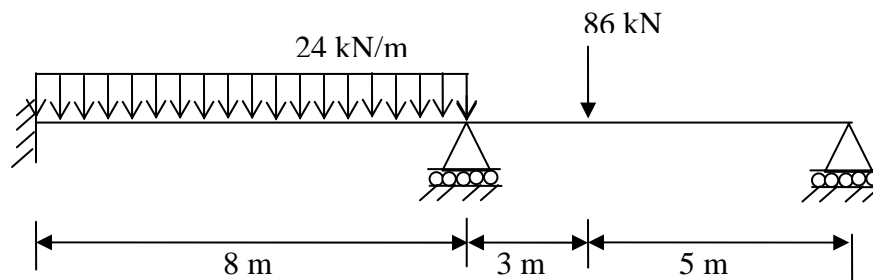

Fig.2
2. Analyse the continuous beam shown in Fig.2 using Strain Energy Method, and draw shear force and bending moment diagrams. Assume constant EI throughout the beam. Locate and find the distances of the points of contra flexure from supports. Draw elastic curve. [15]
2. Analyse the continuous beam shown in Fig.2 using Strain Energy Method, and draw shear force and bending moment diagrams. Assume constant EI throughout the beam. Locate and find the distances of the points of contraflexure from supports. Draw elastic curve. [15]
2. Analyse the continuous beam shown in Fig.2 using Strain Energy Method, and draw shear force and bending moment diagrams. Assume constant EI throughout the beam. Locate and find the distances of the points of contra-flexure from supports. Draw elastic curve. [15]